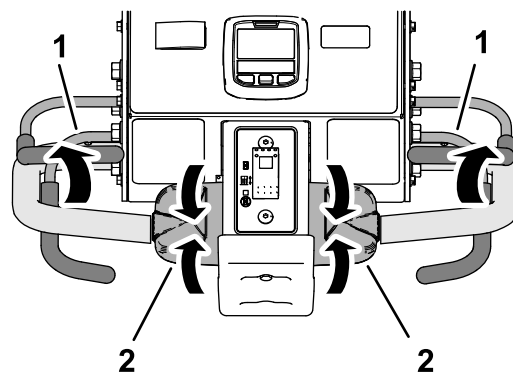

Figure 98
1. Release the traction control and allow it to move to the NEUTRAL position, and release the operator-presence bail (Figure 98).